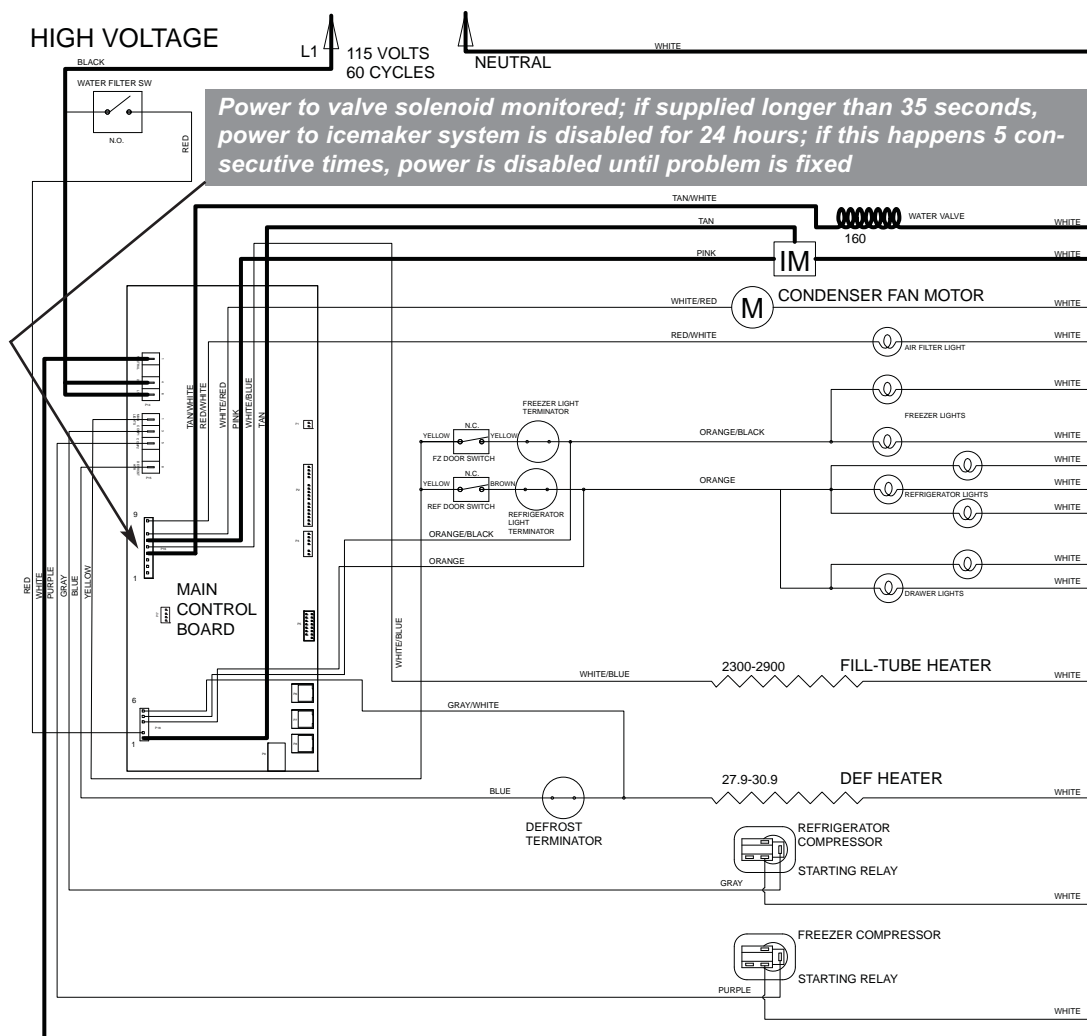
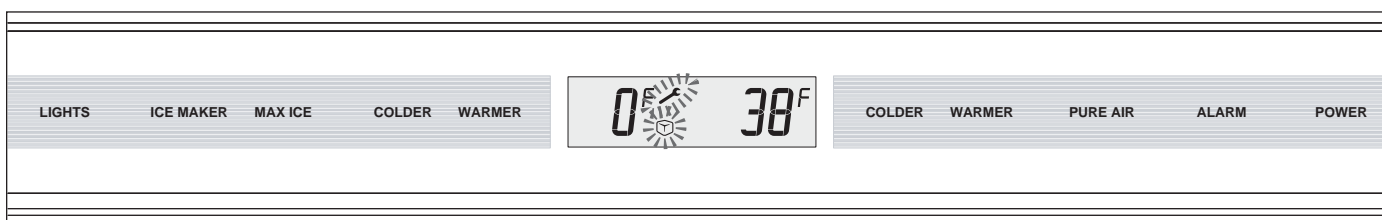

Figure 3-48. Signal Trace Schematic: Icemaker Electrical System
Figure 3-49. Service Icon and Ice Cube Icon Flashing = Service Needed on Ice Maker System
During an ice production cycle, the microprocessor observes the power supplied to the water valve solenoid. If the solenoid is energized for more than thirty-five (35) seconds, power to the icemaker system is disabled for twenty-four (24) hours (See Figure 3-48), and the appropriate fault code is logged. If this happens five consecutive times, the ICE icon and service icon in the LCD will flash (See Figure 3-49), and the icemaker system will remain disabled, to include the ICE MAKER key, until the problem is corrected and the fault indicator and fault code is cleared.